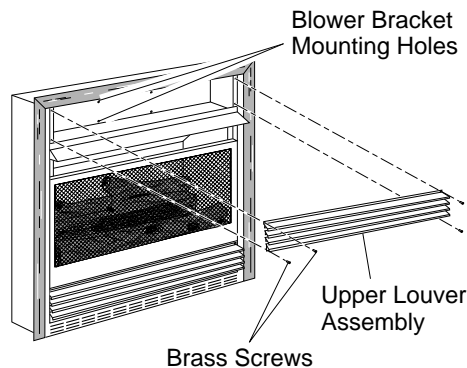
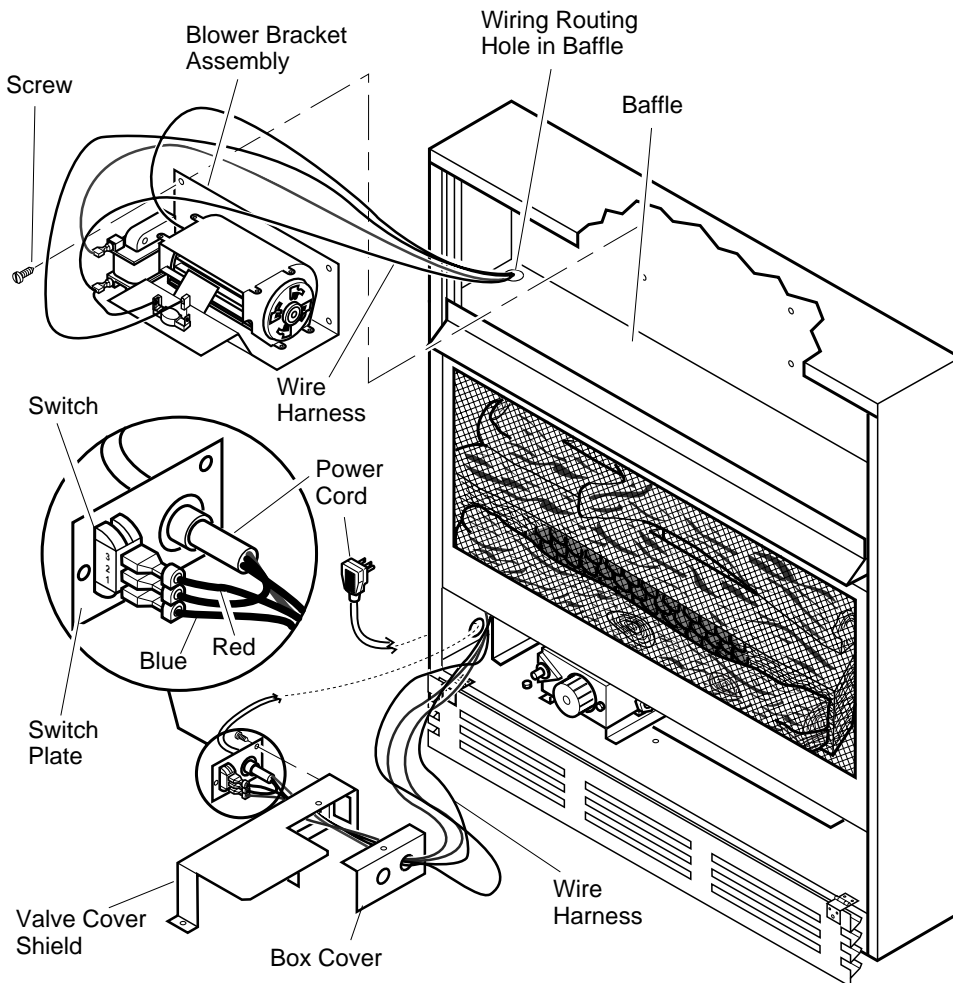
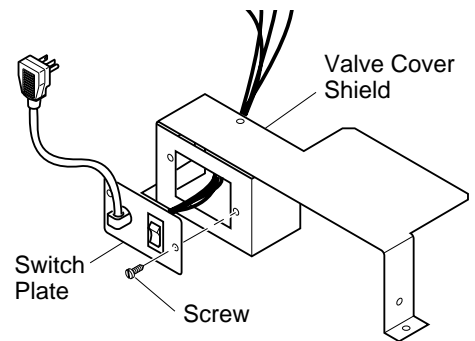

Figure 15 - Removing Upper Louver Assembly
Figure 17 - Installing Blower Bracket Assembly
Figure 18 - Installing Switch Plate to Valve Cover Shield
2. Remove 4 screws from louver assembly (see Figure 15). Save these screws.
3. Note the wire locations on back of AUTO/OFF/ON switch. The terminals on back of switch are numbered 1, 2, and 3. Carefully remove red wire from terminal 1 and blue wire from terminal 3. Black wire can remain on middle terminal 2 (see Figure 17, page 12).
5. In top of the heater cabinet, locate the four mounting holes on the outer casing. Align these four holes with those on the blower bracket assembly. Attach blower bracket assembly to the outer casing with 4 #10 screws provided (see Figure 17).
6. Route the wire harness through the hole in left side of baffle. Pull wire harness through lower opening above where the valve shield was removed. (see Figure 17).
7. Insert the 4 wire harness into one of the round holes in the rear of the valve cover shield and through the rectangular hole in the front of shield (see Figure 17).
9. Install the switch plate on the valve cover shield with 2 #10 screws provided (see Figure 18). Reinstall the valve cover shield. Route power cord out of the cabinet by inserting it through the bushing on the outer casing (see Figure 17). Plug fan kit into 120-Volt grounded power supply and test operation. **Note:** When switch is in the AUTO position, the fan will start after the heater has run for a few moments. The fan will continue to run for several moments after the heater has been turned off. When switch is in the ON position, the fan will run until turned to OFF. Reinstall upper louver assembly and hood if previously removed, (see Figure 15, page 11). Close lower louver door.
8. Reinstall upper louver assembly and hood if previously removed, (see Figure 15, page 11). Close lower louver door.